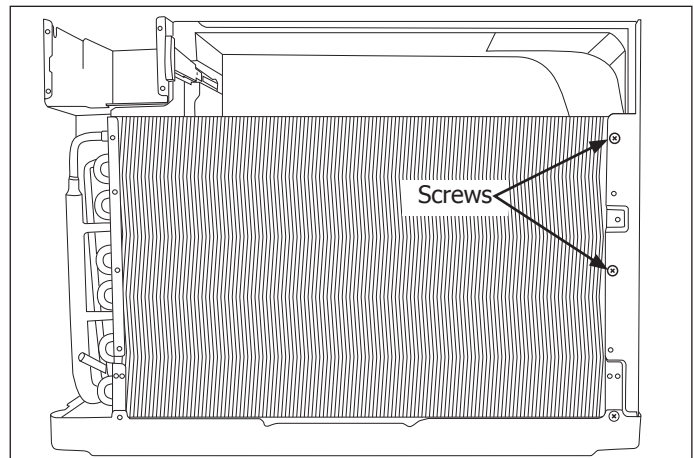

Figure 4-21.
9. Extract the two screws from the right front securing the right bulkhead partition to the evaporator. (See Figure 4-21)